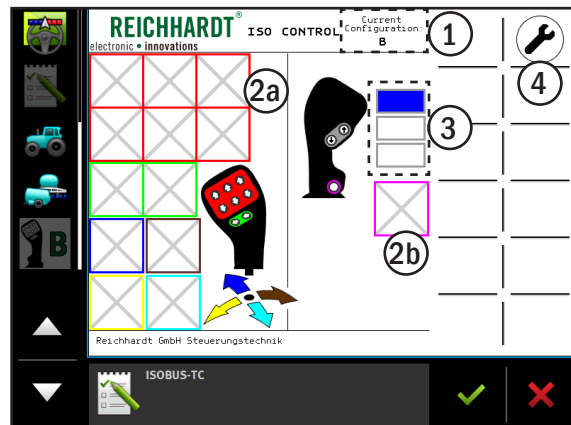

Fig. 23: Reichhardt joystick mask with configuration B
In the Reichhardt mask the current configuration (1) of the ISO CONTROL joystick, as well as the possible function assignments for the individual buttons/axes (2a and 2b), are displayed in an overview (see Fig. 23).
The joystick can be assigned different functions for the individual inputs (buttons/axes) on three different levels. These levels are shown on the right side of the screen (see Fig. 23 - 3).
The wrench icon (see Fig. 23 - 4) can be used to change the mode for level switching (see Chapter 6.6) or select a different configuration for the joystick (see Chapter 6.7).